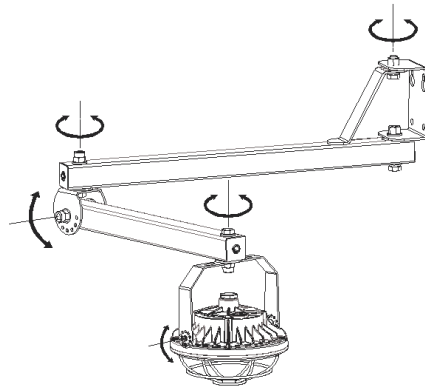

Figure 4
1. The irradiation angle can be adjusted in multiple directions and angles to meet the irradiation requirements of the site (Figure 4)